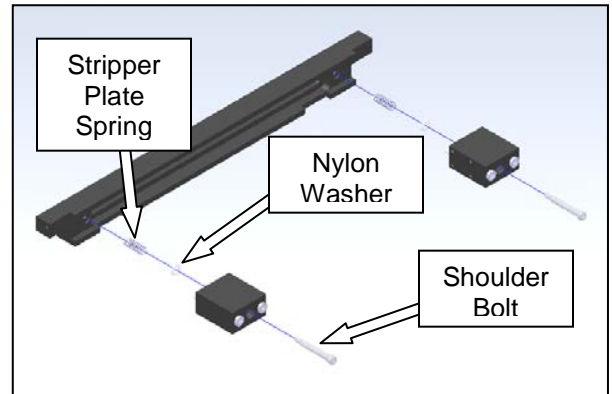

Figure 3-321. Mounting the Stripper Plate
12. Reinstall the shoulder bolts through the spring blocks and into the stripper plate according to Figure 3-321. Remember to install the two nylon washers removed in step 10.